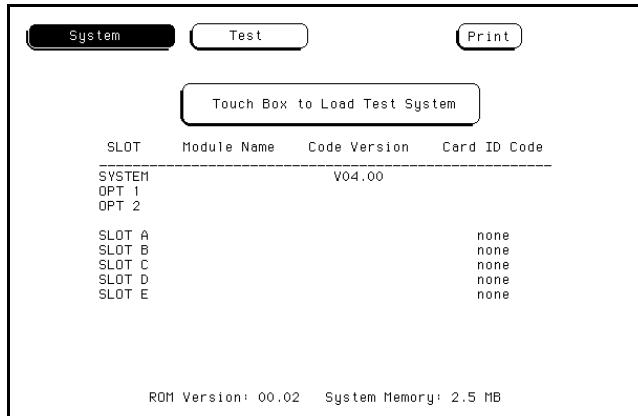

Figure 4-3. Loading the Test System
3. Verify that test files are on an installed disk. Touch the field close to the center of the screen to load the Test System. See figure 4-3.